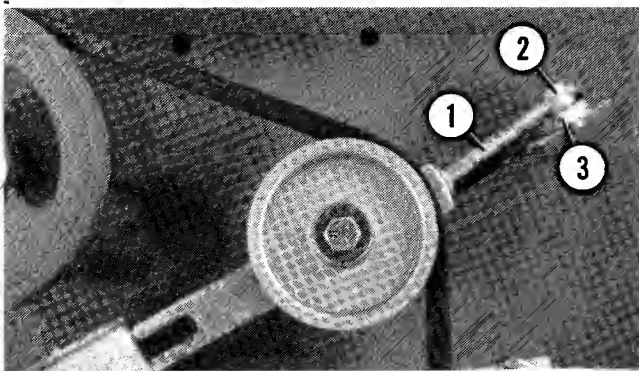

**Figure 30 Upper Adjustment**
*Upper Adjustments* (see Fig. 30)